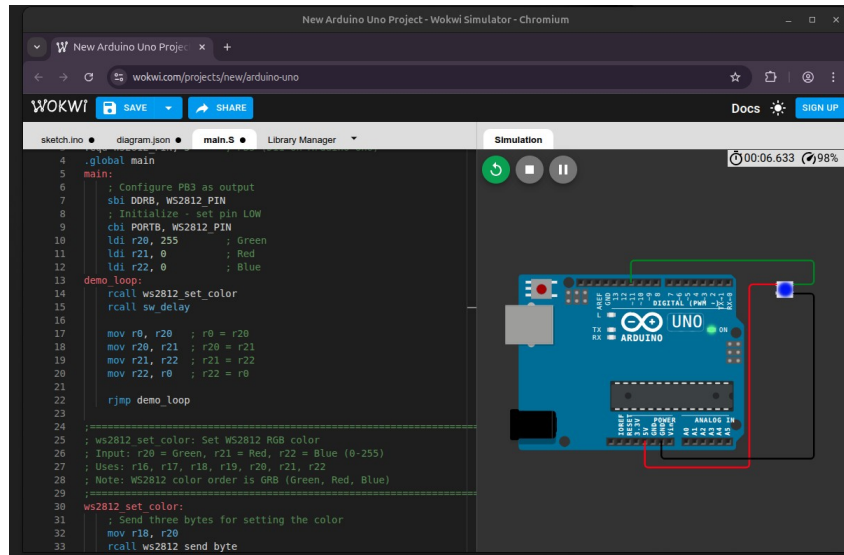

Figure 3: Wokwi Simulator & Circuit Diagram for Lab 3
1. Create a new project in **Wokwi Simulator** (<https://wokwi.com/projects/new/arduino-uno>) as shown in **Figure 3**.